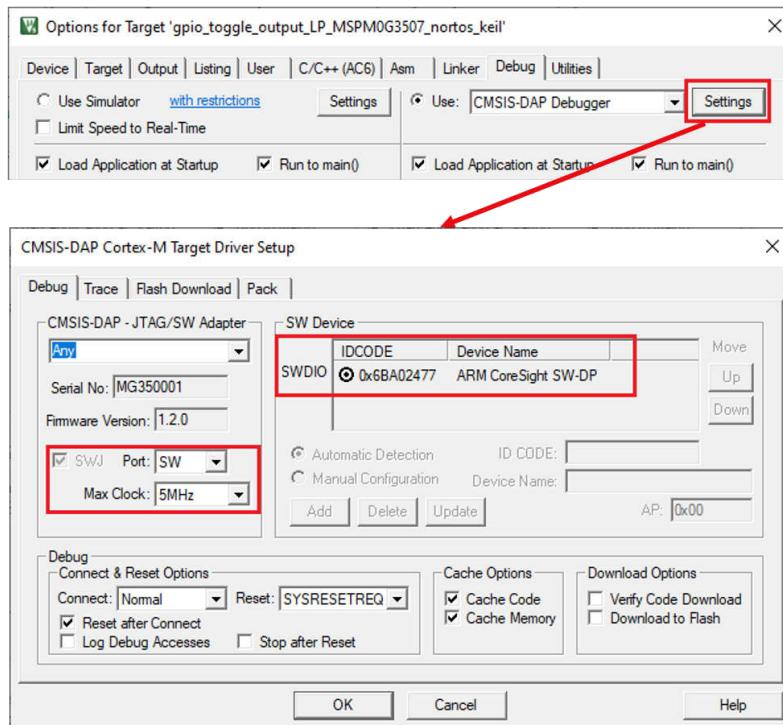
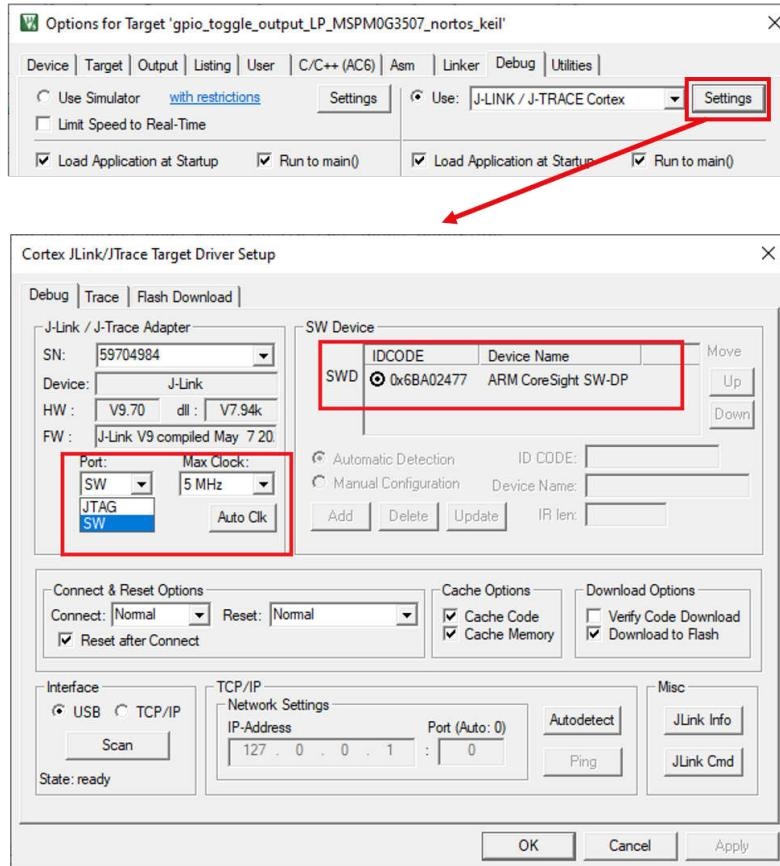

Figure 3-47. Check the Setting of XDS110 Probe
Figure 3-48. Check the Setting of J-Link Probe
3. Click on the *Settings* button. On the *Debug* tab, make sure the settings match with Figure 3-47 and Figure 3-48.